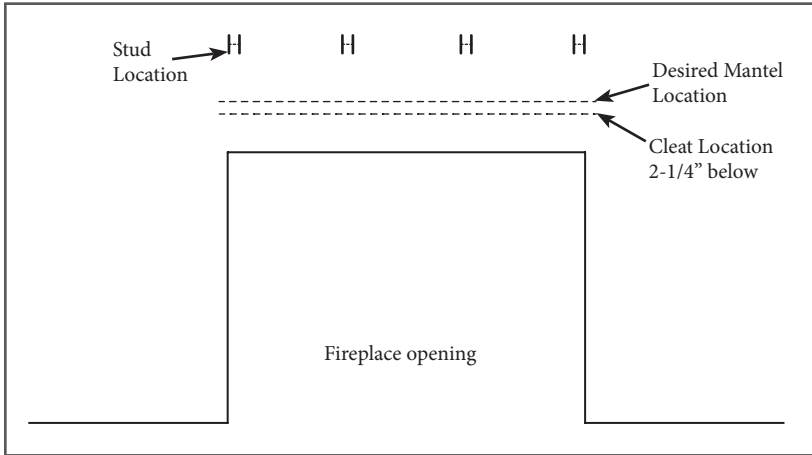

Figure 1
1. Decide at what height the mantel is to be installed. Using a level, mark the location with a pencil. Make another line 2-1/4" below the mantel line height (Figure 1).
2. Using a stud finder, locate the studs along the area the mantel will be installed. Mark stud locations with a pencil (Figure 1).